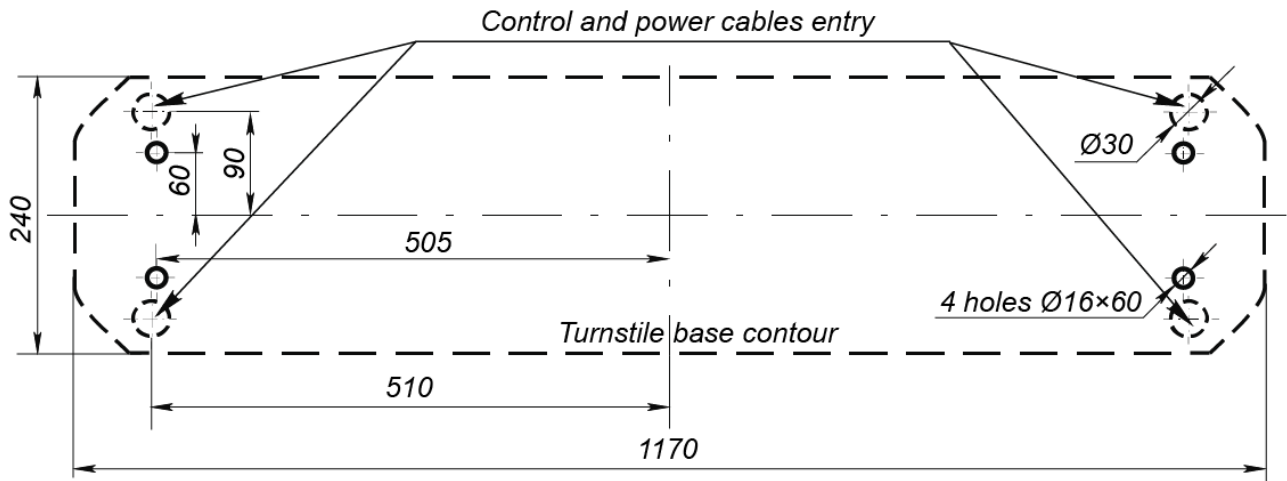
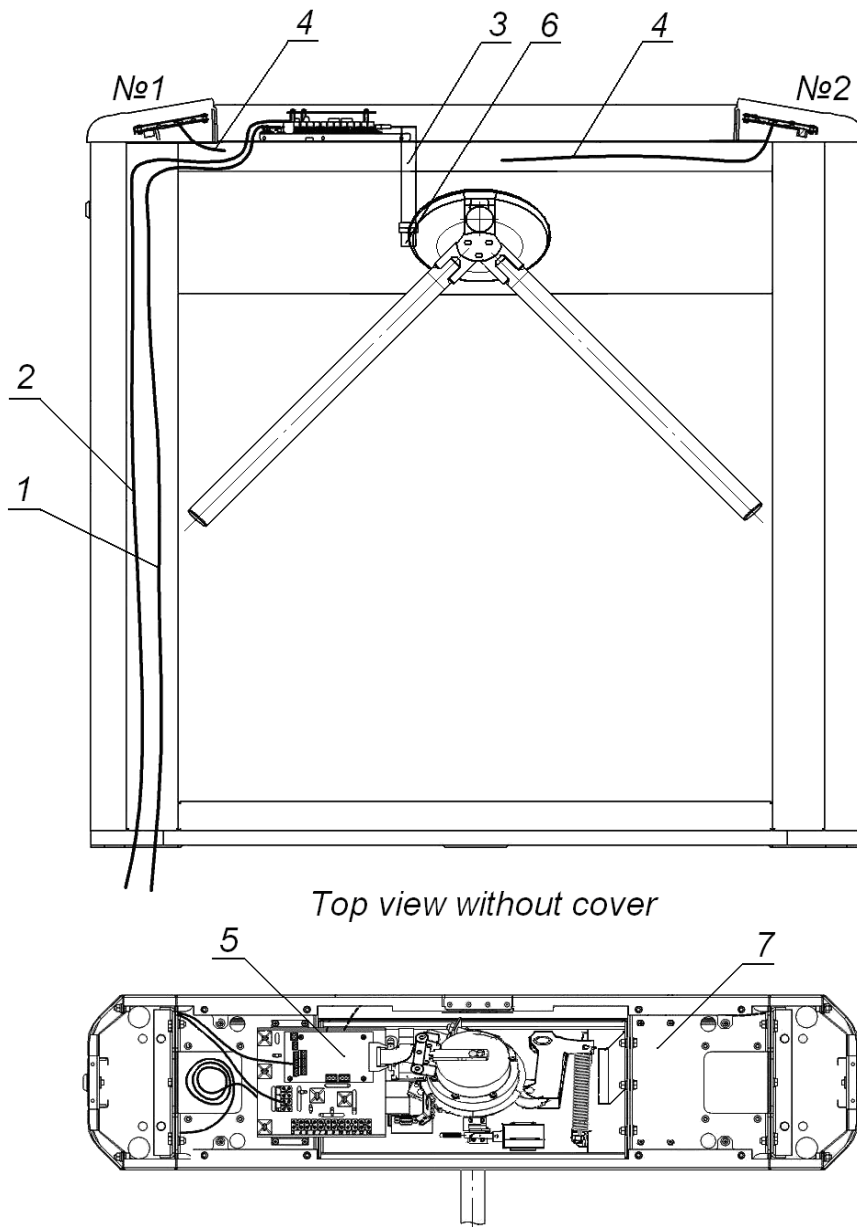

Fig. 10. TB-01.1A turnstile housing installation layout
Fig. 11. Cable routing inside the TB-01.1A turnstile housing:
- to mark the mounting holes according to Fig. 10;
2. Make holes for anchor bolt sleeves for the turnstile housing installation (Fig. 10). Prepare a cable raceway for cables when cables are laid concealed under floor. Install and fix the turnstile housing only after all cables inside the turnstile housing and in electric raceways are laid. Cable routing inside the turnstile housing is shown in Fig. 11.
The turnstile design has the place designated for mounting of an ACS controller. The ACS controller is mounted on a bracket (7, Fig. 11). Maximum possible size of the mounted board is 160×150×35 mm.